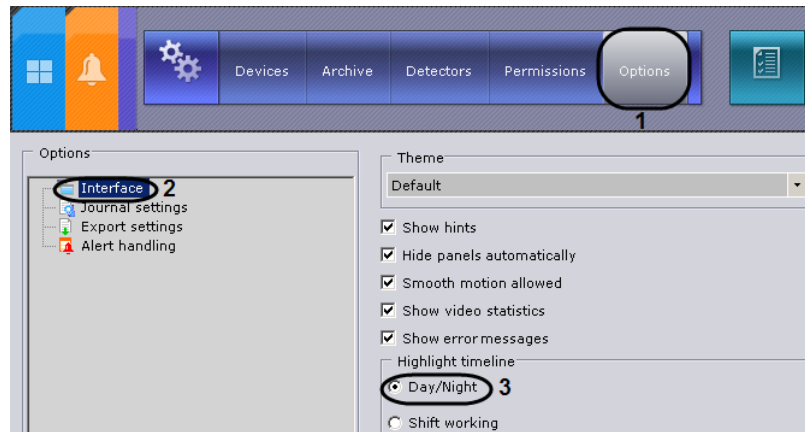

Fig. 6.8—10 Configuring the timeline style. The Day/night style
1. Go to **System settings**⇒**Options**⇒**Interface** (Fig. 6.8—10, 1-2).
2. Select the **Day/night** option button in the **Highlight timeline** configuration group (see Fig. 6.8—10, 3).